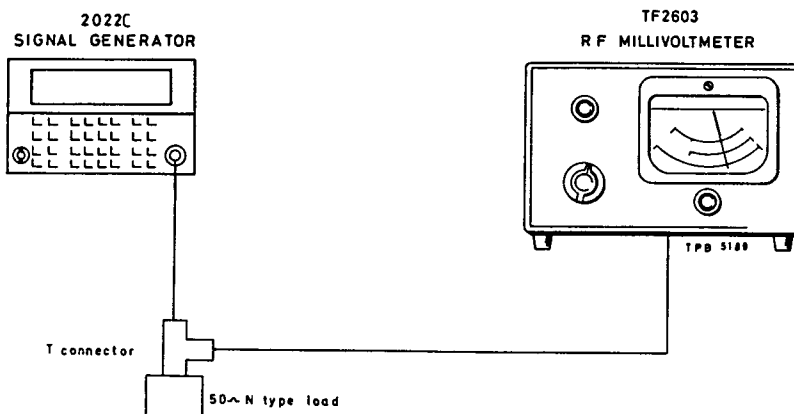

Fig. 5-10 Test gear arrangement to check VSWR up to 350 MHz
- (1) Connect test equipment as shown in Fig. 5-10 and set the 2022C controls as follows :